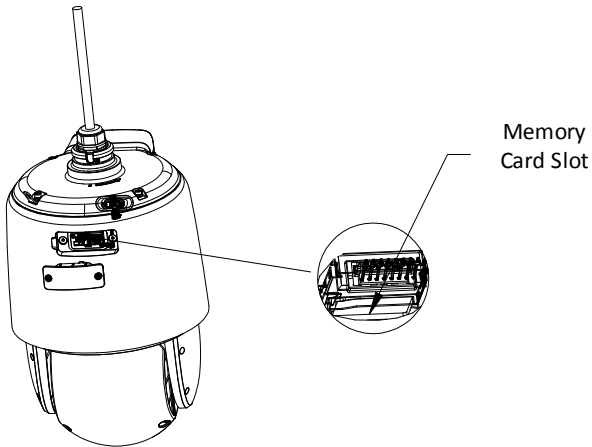

Figure 2-34 Memory Card Slot
- Refer to **Section 2.1.1 Wall Mounting** for wall mounting steps for SE7xxxI series (IR) speed dome.
- Refer to Figure 2-34 for the memory card slot of SE7xxxI (IR) series speed dome.